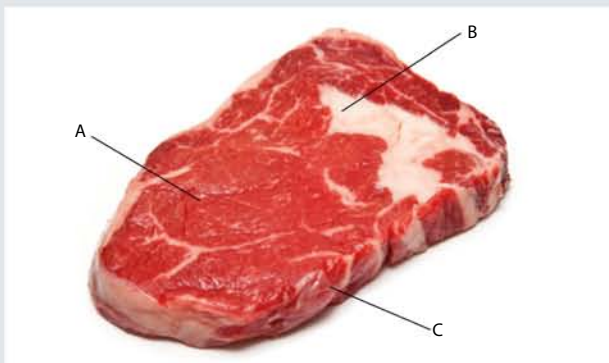

FIGURE 19.4.1
- Which part of the steak in Figure 19.4.1 is likely to contain the highest level of non-polar contaminant?